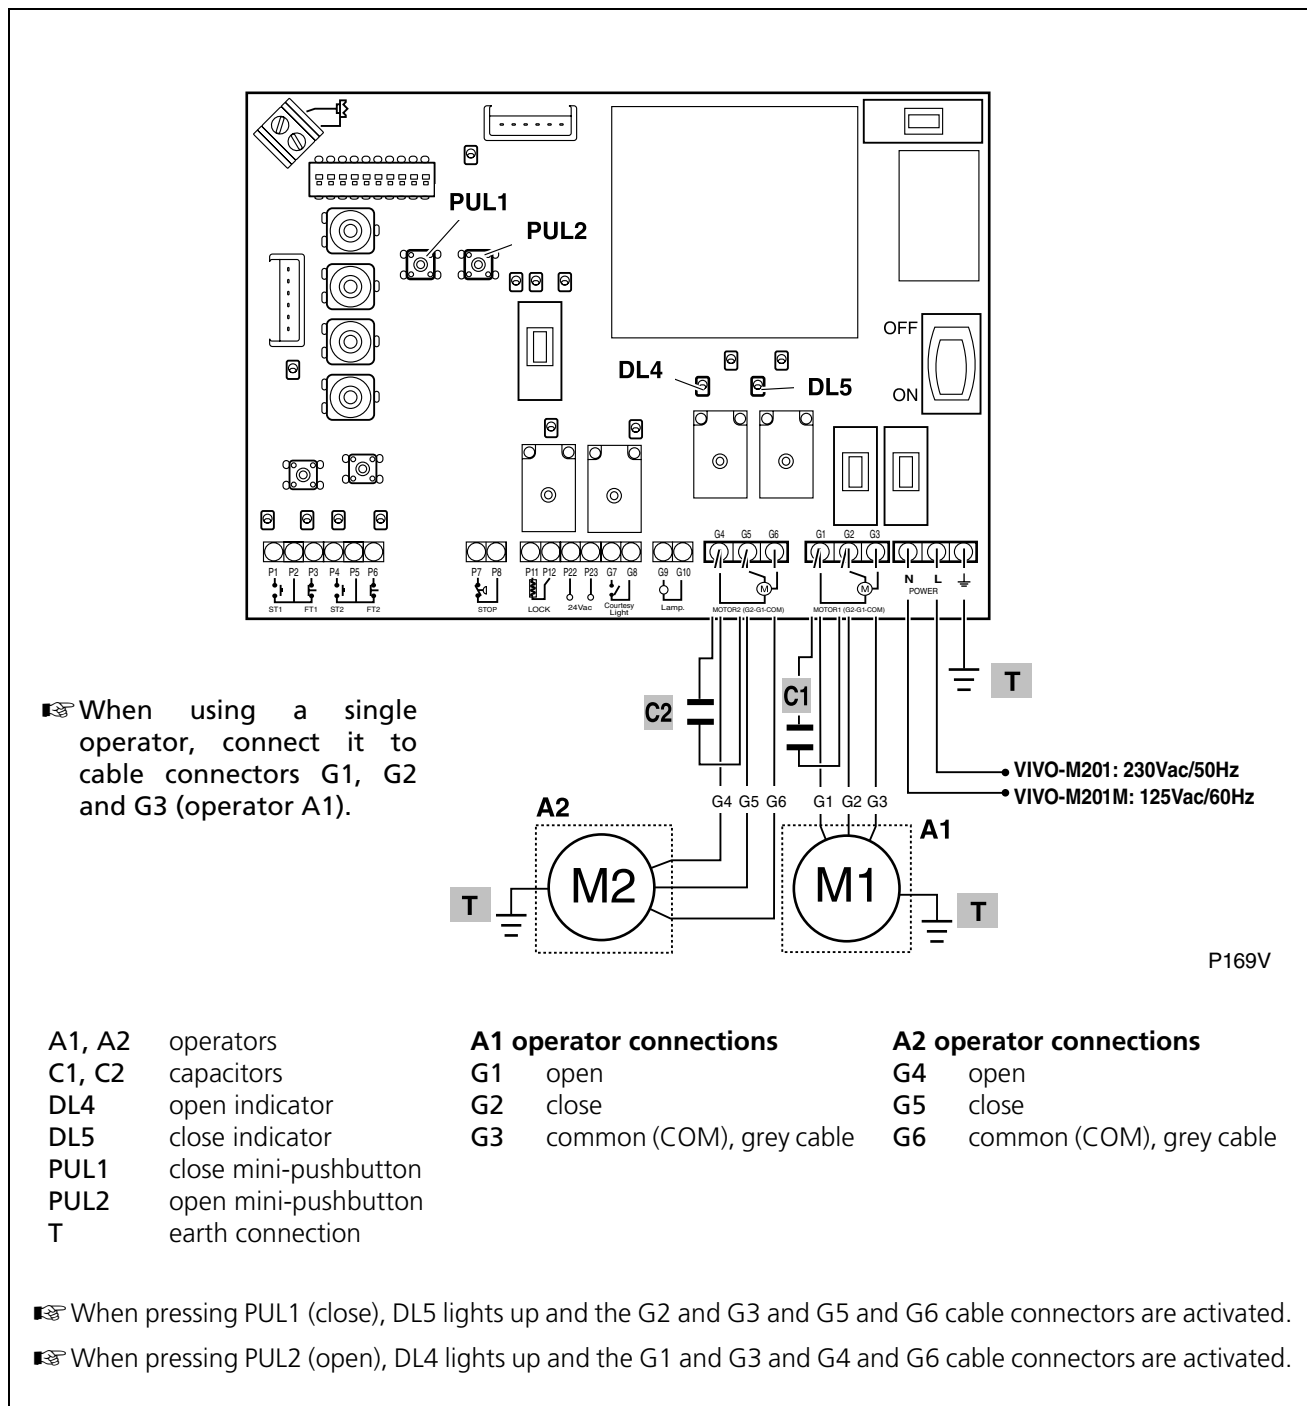

Fig. 3 Power supply and operator connections
- ☞ If the turning direction of any of the operators is not correct, interchange the connection cables (G1 and G2) of the operator (for further details, see "Fig. 3 Power supply and operator connections" on page 49).
When using the control board with a single operator (operator A1, see Fig. 3 on page 49), the times corresponding to operator A2 must be zero. To do this, instead of carrying out steps 4, 5 and 6, press ST1 three times consecutively (twice with DIP8=OFF).